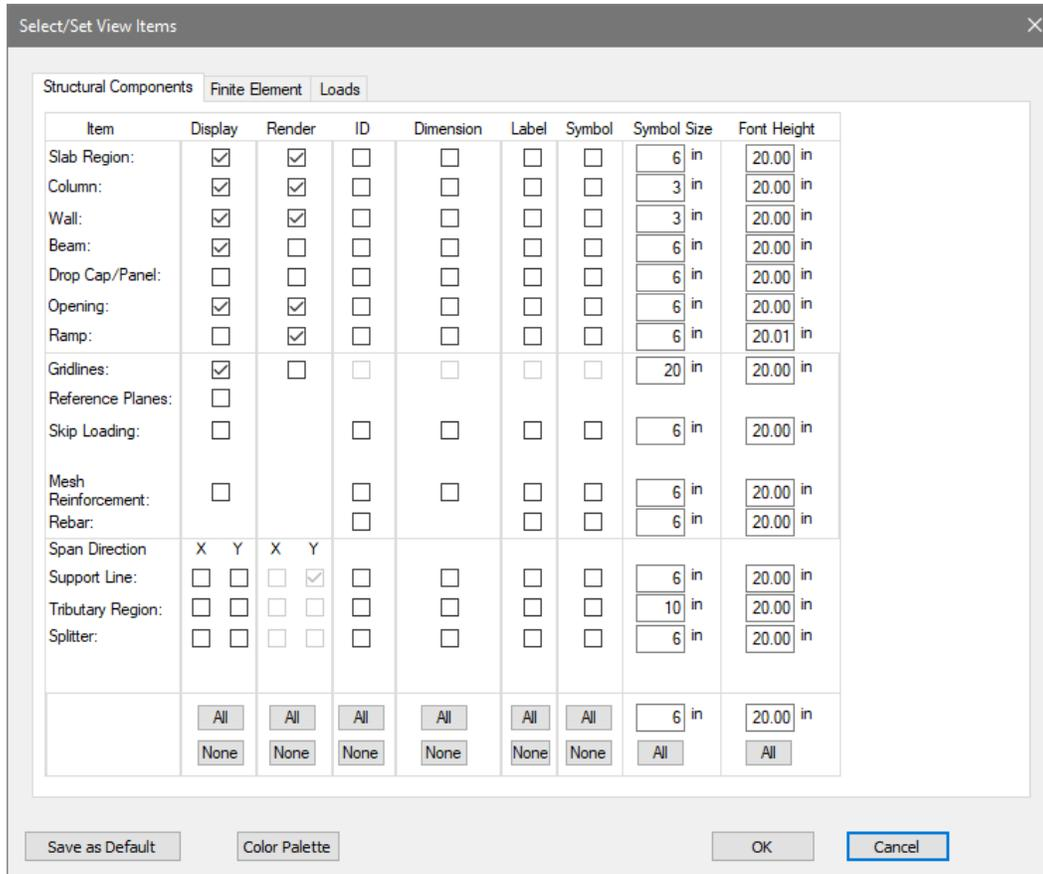

Figure 10-21
- On the *Structural Components* tab, make the selections as shown in **FIGURE 10-21**.